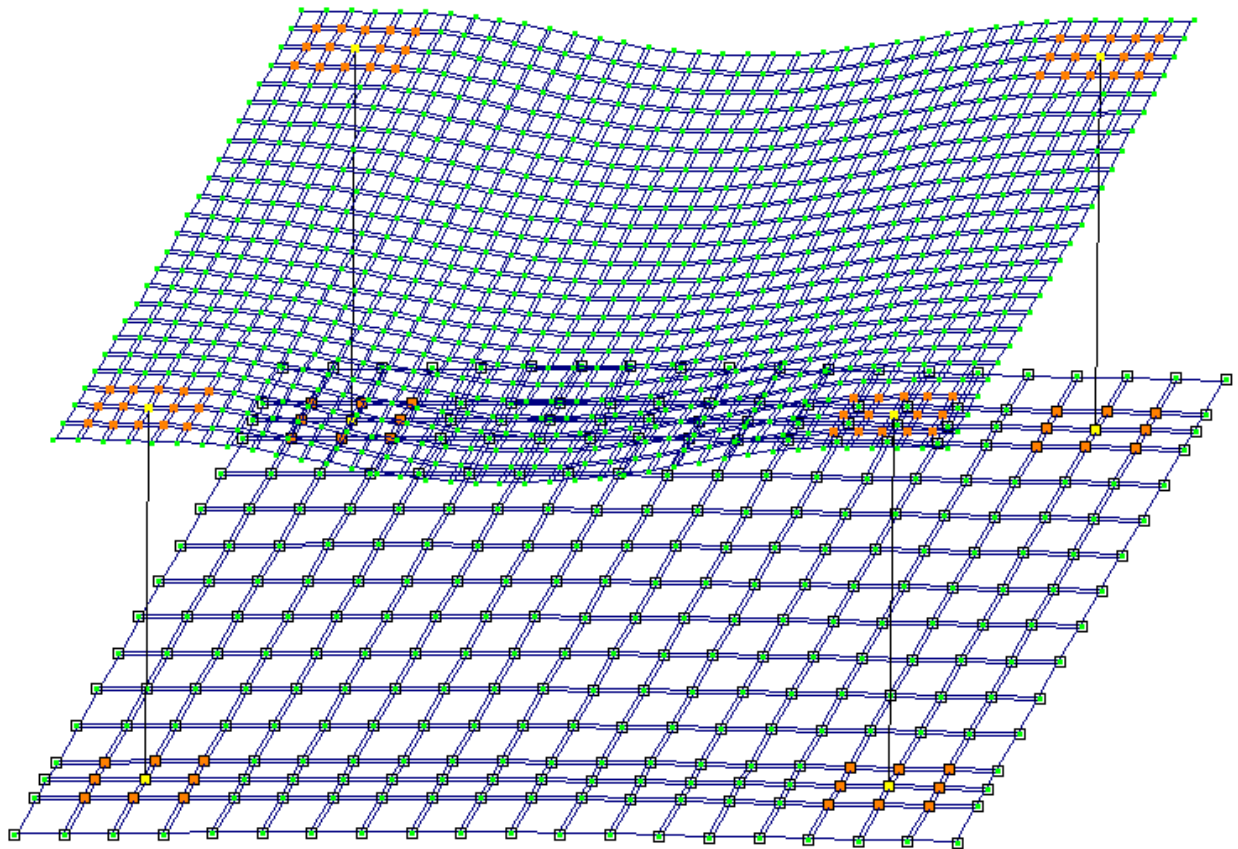

Figure 9.30. Design model with account of nodal displacements
- ⇒ In the mode of analysis results visualization, by default design model is presented with account of nodal displacements (see Fig.9.30).